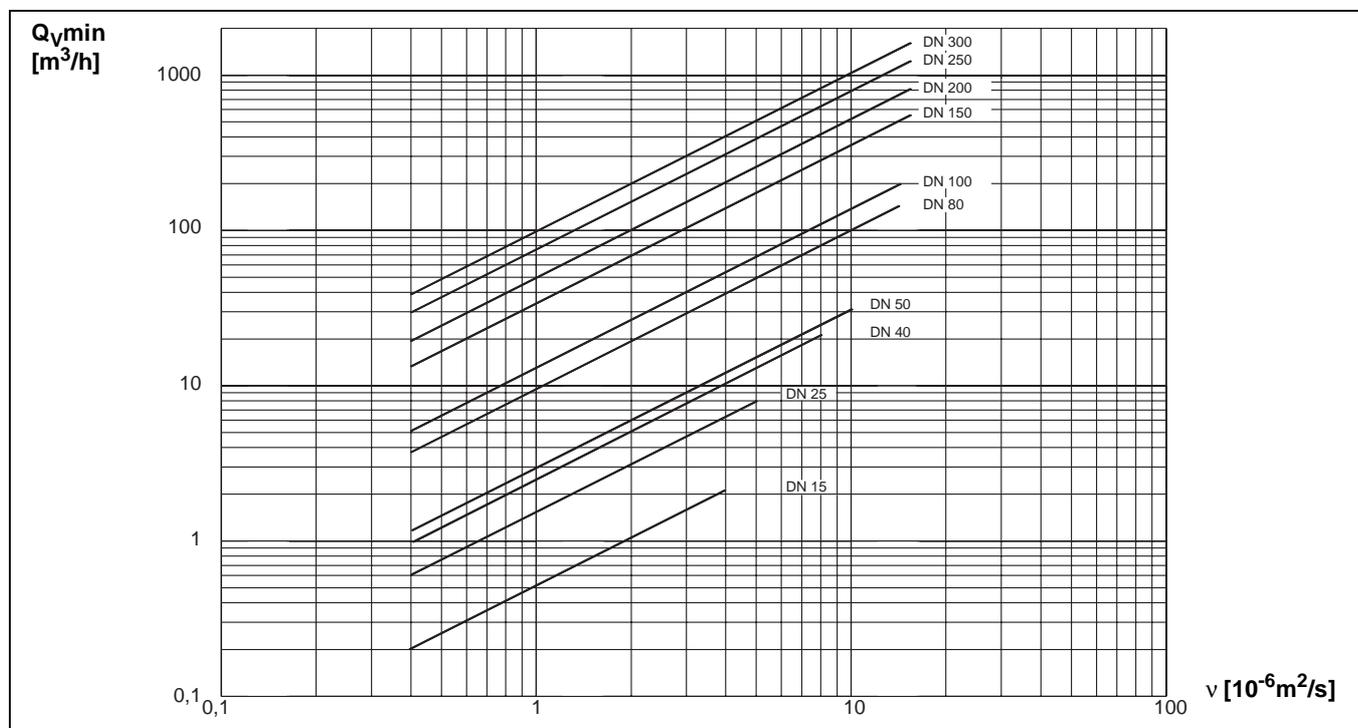

Fig.4 Minimum Flowrate, Liquids as a Function of the Kinematic Viscosity
2. Start of linear range, at 2 cSt, (from Fig. 4): Q_{vmin} = 6 m³/h